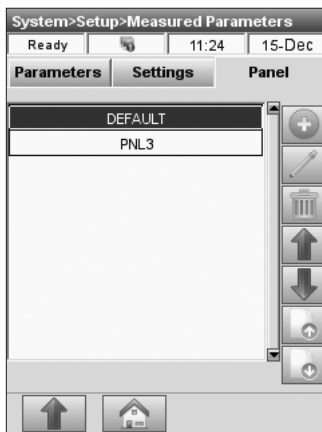

Fig. 3-27 Panels
8. To edit an existing panel, select the panel (Fig. 3-27) and press .